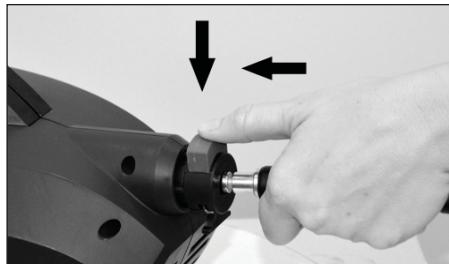

Figure 6 - Attach high pressure hose
1. Attach high pressure hose to high pressure outlet (see Figure 6)